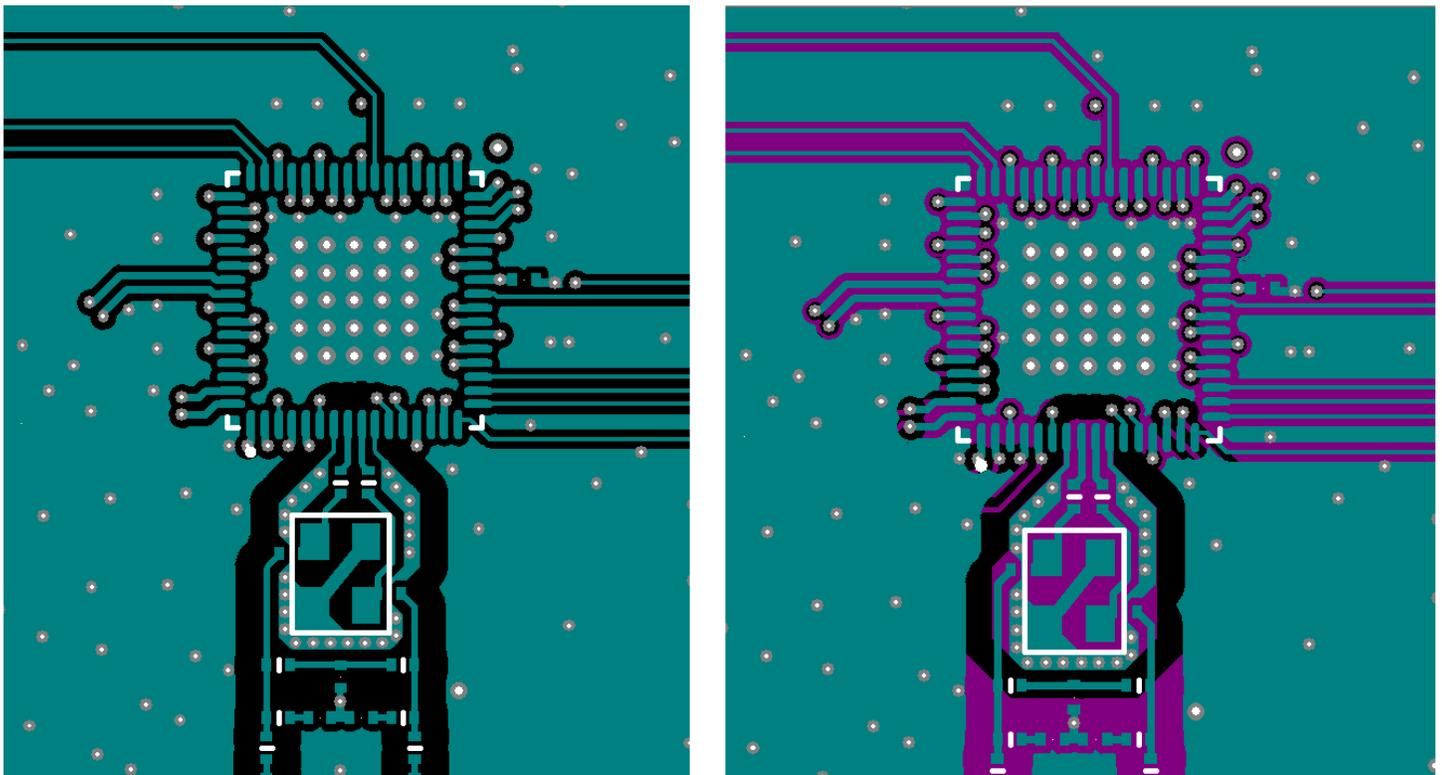
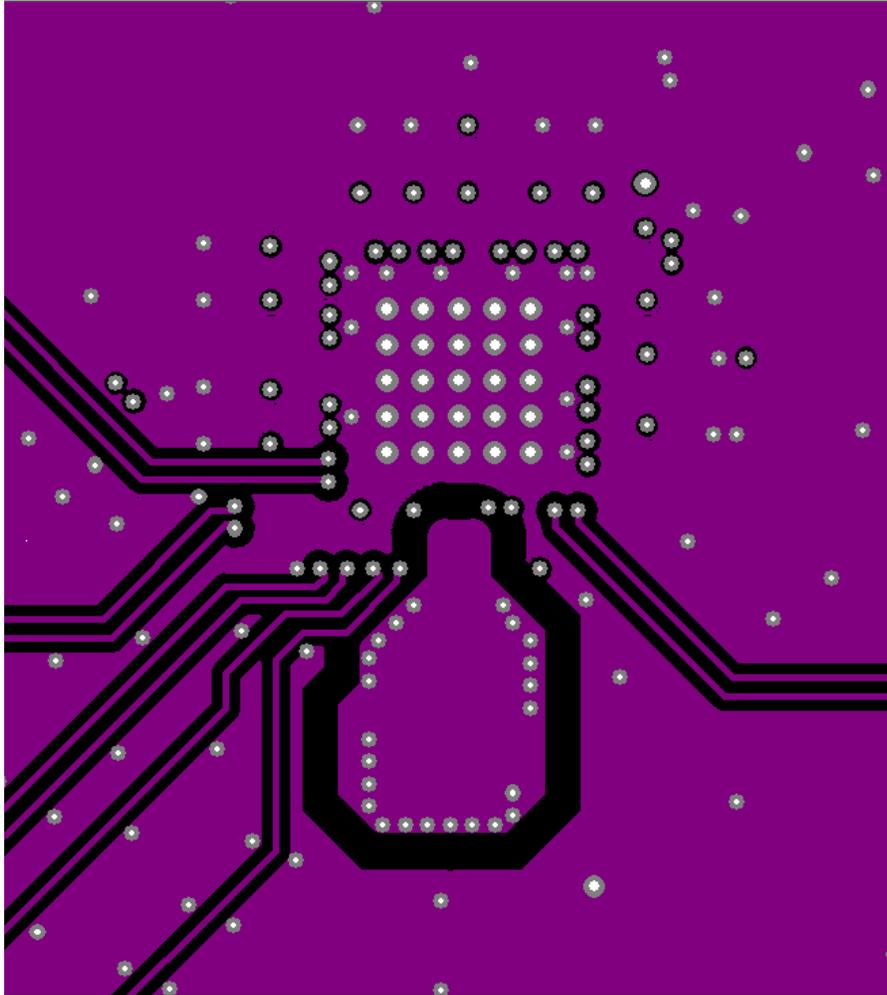

Figure 12.1. 64-pin Si5391/Si5391P Crystal Layout Recommendations Top Layer (Layer 1)
Figure 12.2. Zoom View Crystal Shield Layer, Below the Top Layer (Layer 2)
3. Connect the crystal's GND pins to the DUT's X1 and X2 pins via a local crystal GND shield placed around and under the crystal. See Figure 12.1 64-pin Si5391/Si5391P Crystal Layout Recommendations Top Layer \(Layer 1\) on page 52 at the bottom left for an illustration of how to create a crystal GND shield by placing vias connecting the top layer traces to the shield layer underneath. Note that a zoom view of the crystal shield layer on the next layer down is shown in Figure 12.2 Zoom View Crystal Shield Layer, Below the Top Layer \(Layer 2\) on page 53.
Figure 12.2 Zoom View Crystal Shield Layer, Below the Top Layer (Layer 2) on page 53 shows the layer that implements the shield underneath the crystal. The shield extends underneath the entire crystal and the X1 and X2 pins. This layer also has the clock input pins. The clock input pins go to layer 2 using vias to avoid crosstalk. As soon as the clock inputs are on layer 2, they have a ground shield above, below, and on the sides for protection.